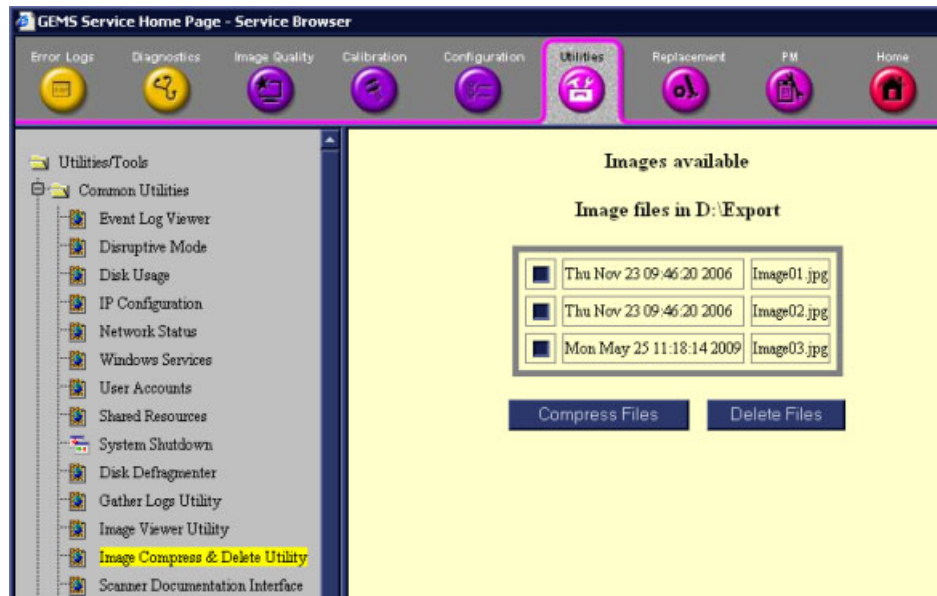

Figure 7-133 Image Compress and Delete Utility
- **Image Compress and Delete Utility** - enables the OLC to compress images for downloading and deleting redundant files from D:\Export - see Figure 7-133.